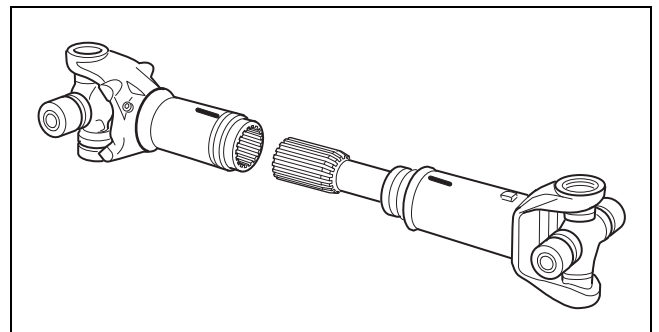

Figure 8.13
2. Pull the slip yoke and slip shaft sections apart. Figure 8.13.